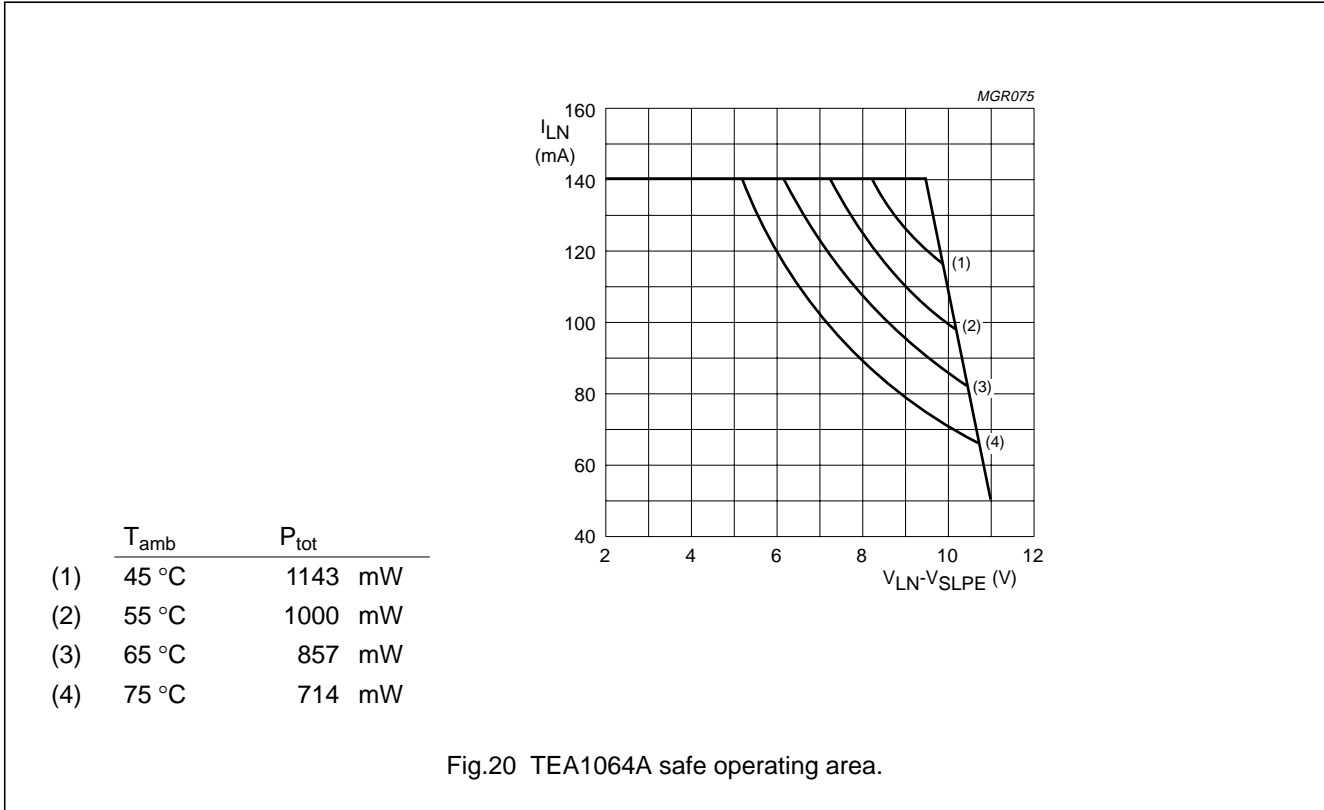

Fig.20 TEA1064A safe operating area.
1. Mostly dependent on the maximum required T_{amb} and on the voltage between LN and SLPE. See Figs 20 and 21 to determine the current as a function of the required voltage and the temperature.